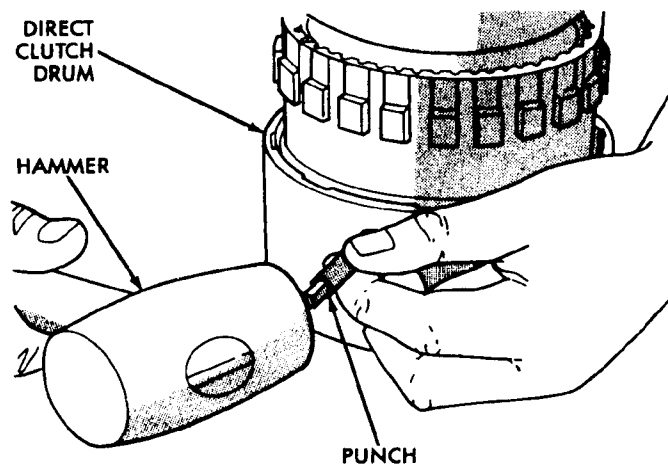

Fig. 29 Marking Direct Clutch Drum And Annulus Gear For Assembly Alignment
(19) Mark position of annulus gear and direct clutch drum for assembly alignment reference (Fig. 29). Use small center punch or scriber to make alignment marks.